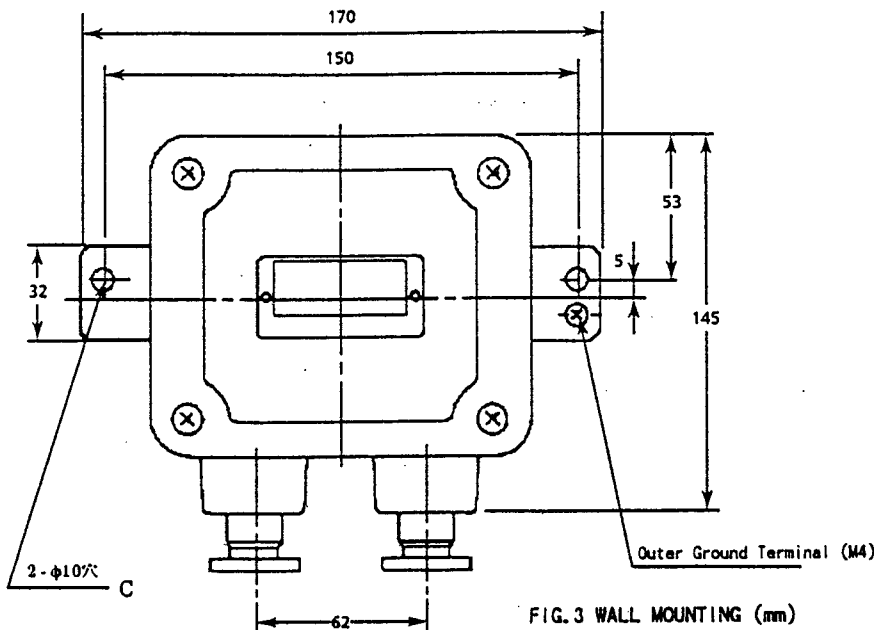

FIG.3 WALL MOUNTING (mm)
- (1) Mount the box on the wall with M8 screw. (2 places shown C in Fig.3)